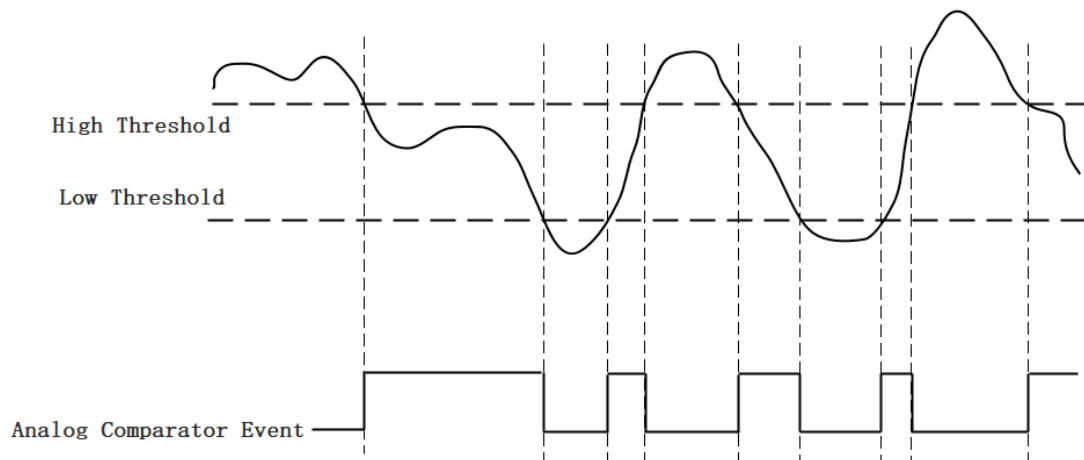

Figure 19 Entering Window Trigger
*Entering Window Trigger:* The window comparator output is high when the signal enters the window defined by the *Low Threshold* and *High Threshold*. The output will change to low when the signal leaves the window as shown in Figure 19.